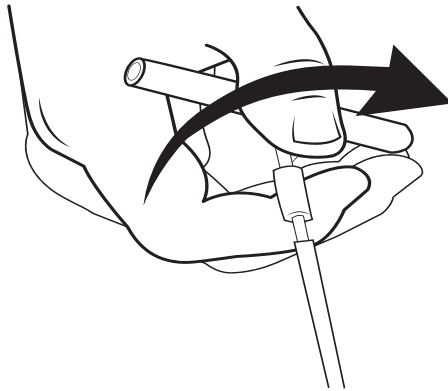

Figure 29. Removing the Handle of the Tunneling Tool
6. Once the tip of the Tunneling Tool is completely exposed, unscrew and remove the handle of the Tunneling Tool (Figure 29).